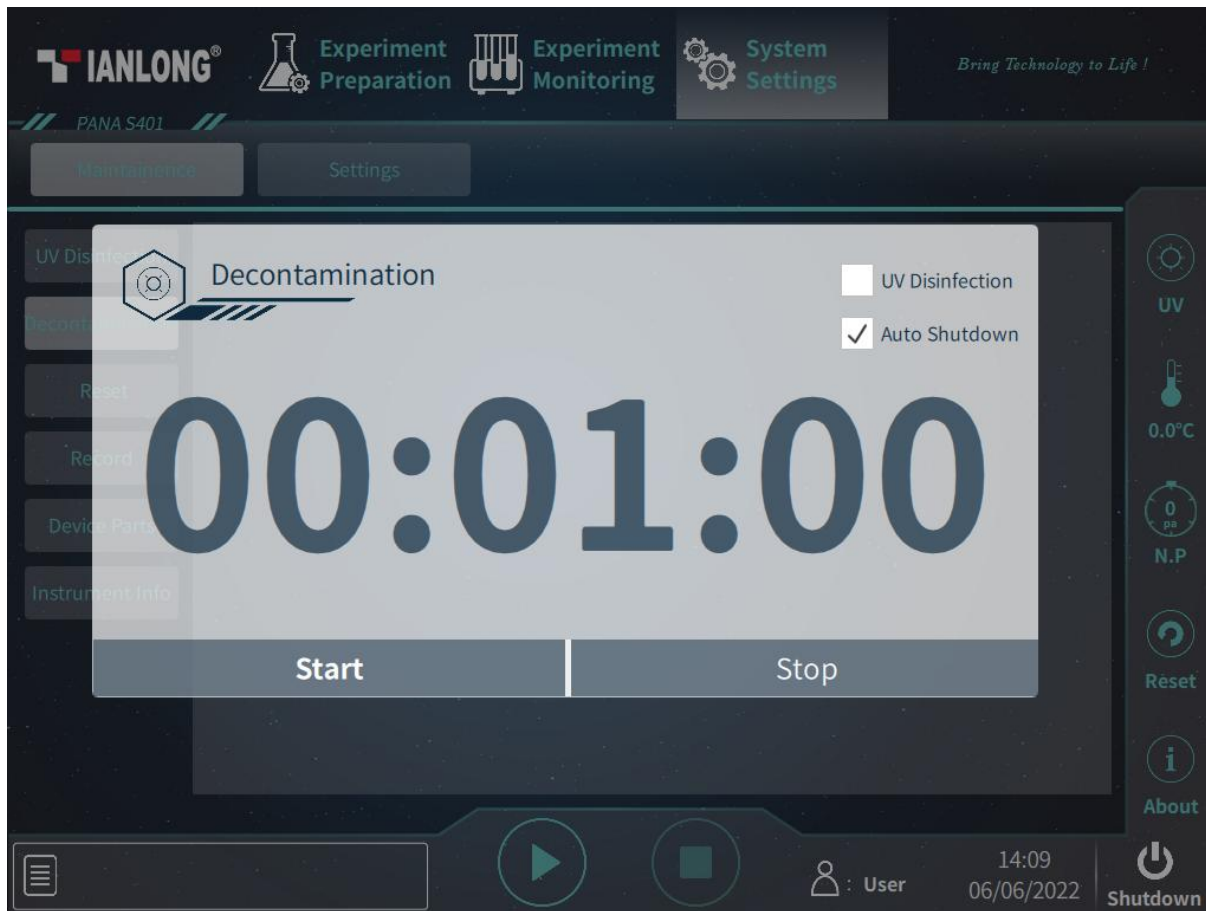

Figure 5-18. System Settings Interface – Maintenance Tab – Decontamination
- ▶ < **Decontamination** >: By clicking this function key, Handling System software will automatically pop up the decontamination window, where user could click < **Start** > or < **Stop** > to start or stop the decontamination, as shown in figure 5-18.